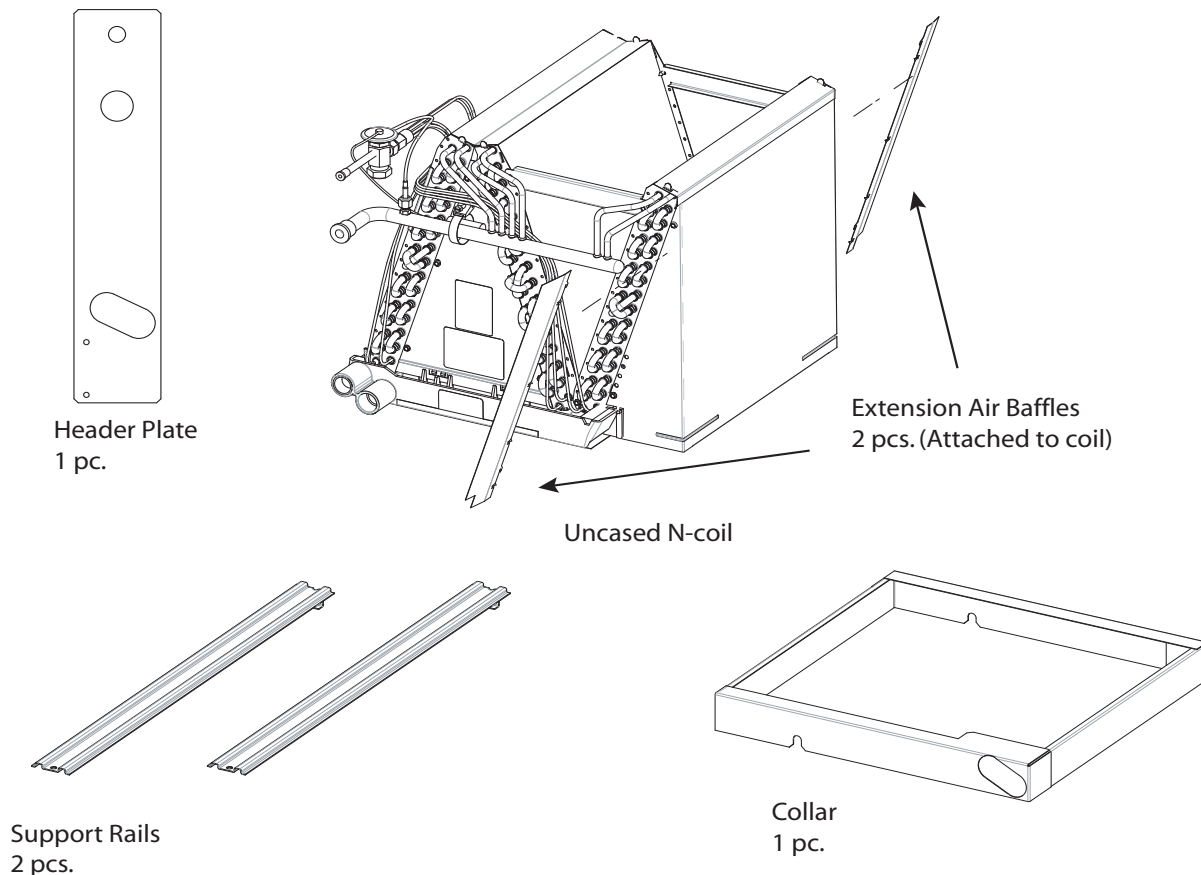

Fig. 1 - Uncased N-Coil Components
Use this instruction manual to install indoor coils on upflow or downflow furnaces. (See Fig. 1.) Do not install coil in horizontal position. Models CNPVC/CNRCV have factory-installed thermostatic expansion valves (TXVs). CNPVC models are used with Puron® refrigerant (R410A) systems and CNRCV models are used with R-22 systems.
The following parts are included with this coil (See Fig. 1), depending on your application different components will be required.
3. Place **collar** over furnace flanges inside of plenum (See Fig. 1).